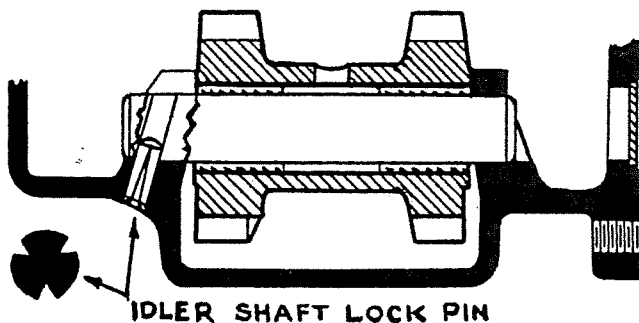

Fig. 67—Group No. 15
REVERSE IDLER: See Fig. 67. (1)—Hold the idler gear in position in the case and install the idler shaft, being sure that the lock pin hole in the shaft lines up with the hole in the case. (2)—Using a new